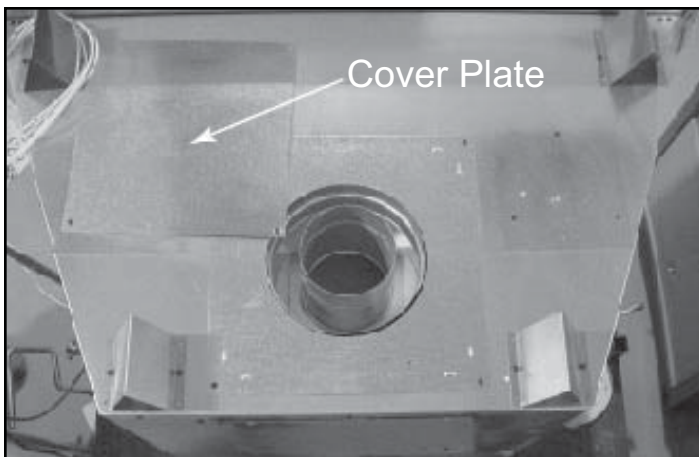

Figure 7.1 Cover Plate, Top of Appliance
If the appliance is to remain top vented, remove and discard the plate (Figure 7.1) and replace the screw you removed in the first step.
- Remove one screw holding the cover plate (Figure 7.1) to the top of the appliance and set aside.